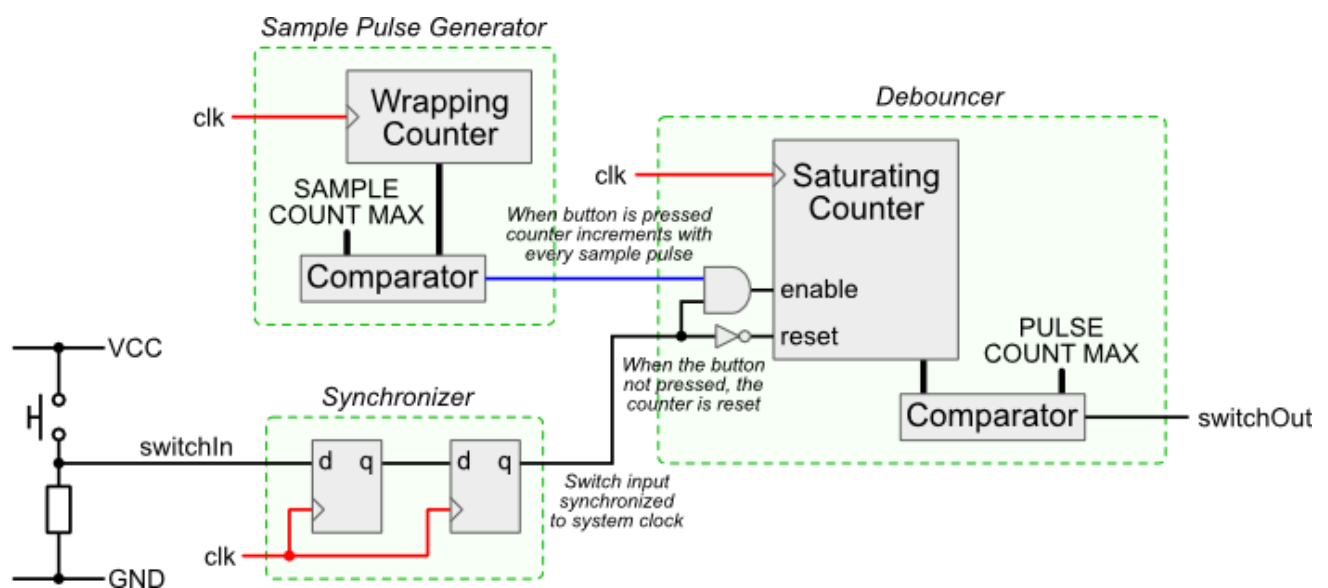

Figure 14 Digital debouncer block diagram
If no debouncing circuit is available a digital debouncer can be programmed into the FPGA (or CPLD) using VHDL. The digital switch debouncing circuit shown in Figure 14 is a basic switch debouncer.
The three main parts are in the block diagram of Figure 14 is:
4. Make sure that you understand the VHDL code for the debouncer (compare the VHDL code with the block diagram in Figure 14).